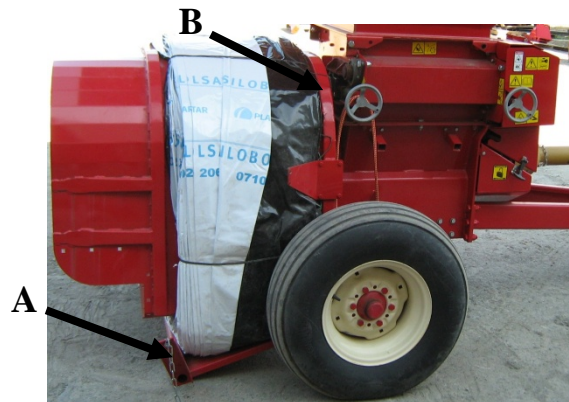

Figure 6.2 Installation of the Bag
For the installation of the bag, the rear tray must be lowered (A). Insert the bag around the tunnel and move it forward on the machine to the rectangular tube in front of the tunnel (B) (Figure 6.2).